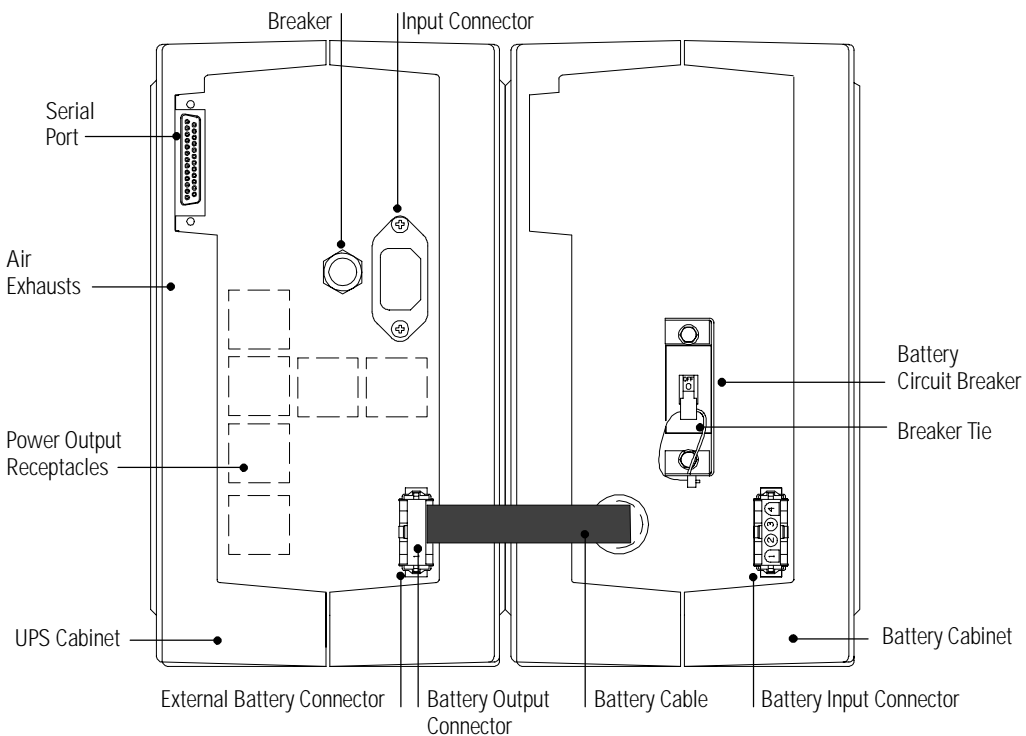

Figure 4. Typical UPS Rear Panel
Whenever the units are not energized, verify the circuit breaker on all battery cabinets is returned to the OFF (O) position (see Figure 4 on page 31).
- Verify the circuit breaker on all battery cabinets is in the OFF (O) position (see Figure 4).